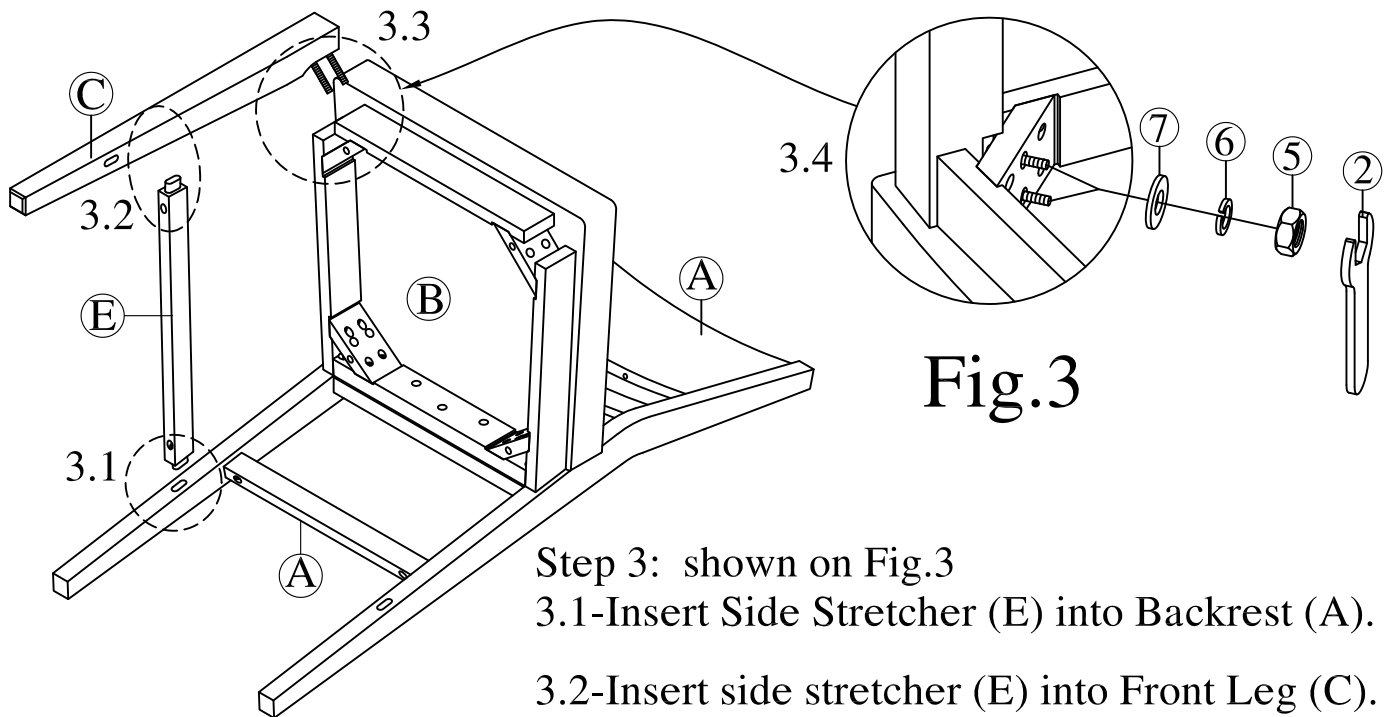

Fig.3
Step 3: shown on Fig.3
3.1-Insert Side Stretcher (E) into Backrest (A).